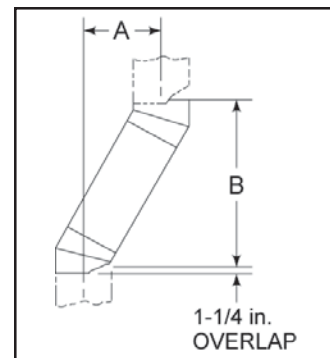

Figure 7 - Chimney Offset/Return
- Measure how far the chimney needs to be shifted to enable it to avoid the overhead obstacle. See Figure 7, dimension "A" to determine chimney sections required to achieve the needed shift.
Example: Your "A" dimension from Figure 7 is 14-1/2 in. Using Table 1 the dimension closest to, but not less than 14-1/2 in. is 14-5/8 in. using a 30-deg offset/return. It is then determined from the table that you would need 33 in. (Dimension "B") between the offset and return. The chimney components that best fit your application are two SL312s.